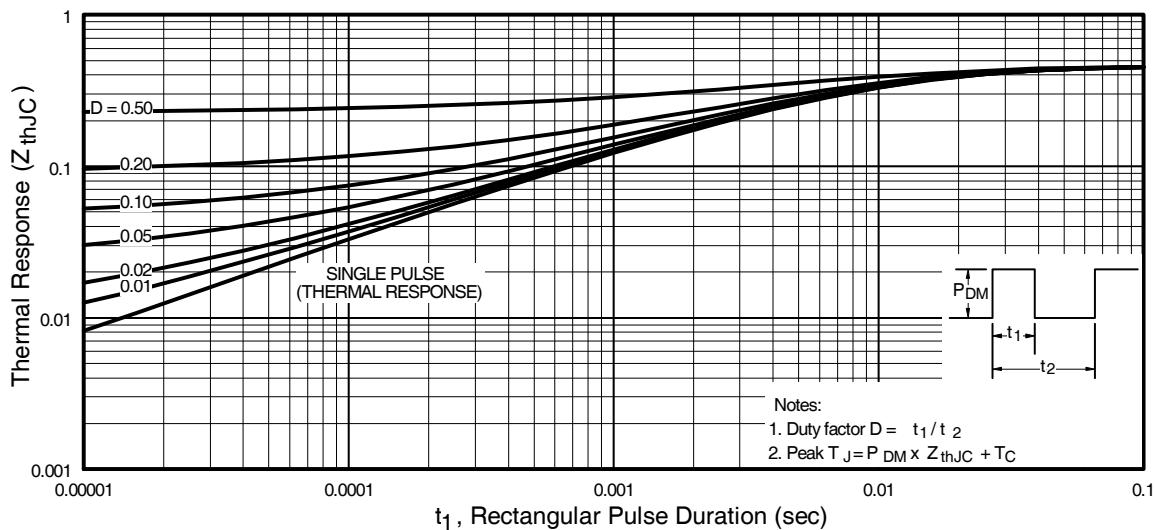

Fig 11. Maximum Effective Transient Thermal Impedance, Junction-to-Case
- $Z_{thJC}(D, t_{av})$ = Transient thermal resistance, see figure 11
- ① Repetitive rating; pulse width limited by max. junction temperature. (See fig. 11).
- ② Starting $T_J = 25^\circ\text{C}$, $L = 0.11\text{mH}$